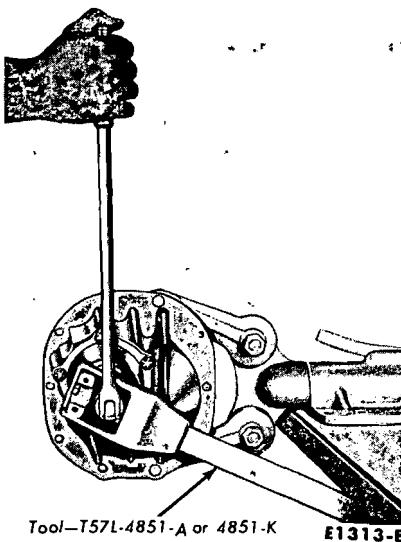
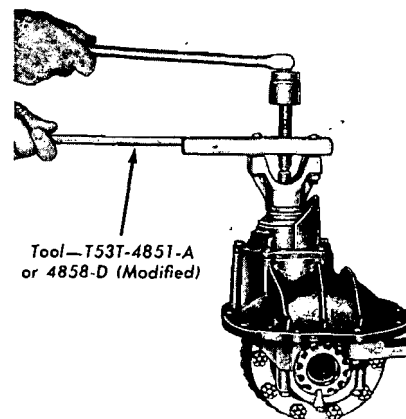

FIG. 35—Removing Pinion Shaft Nut
FIG. 36—Removing U-Joint Flange
1. Turn the carrier case upright, and remove the pinion shaft nut (Fig. 35). Then remove the U-joint flange (Fig. 36).
9. Hold the flange (Fig. 35) and tighten the pinion shaft nut to 175 ft-lbs. Do not exceed 175 ft-lbs at this time. As the pinion shaft nut is tightened, rotate the pinion shaft frequently to allow the bearing to seat.